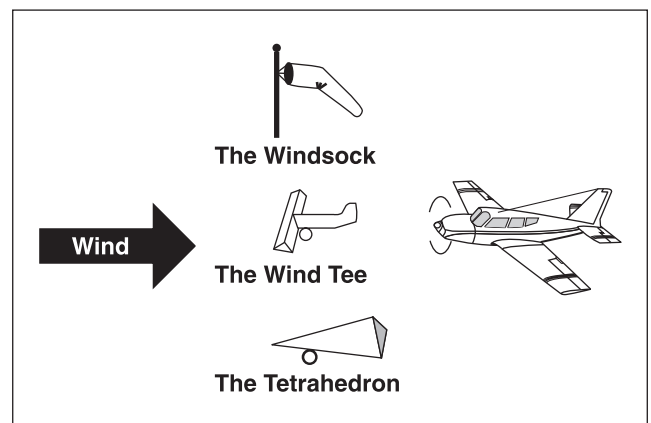

Figure 5-3. Wind/landing direction indicators
- A **wind cone**, **wind sock**, or **wind tee** may be installed near the operational runway to indicate wind direction. The large end of the wind cone or sock points into the wind as does the cross bar of the wind tee. See Figure 5-3.